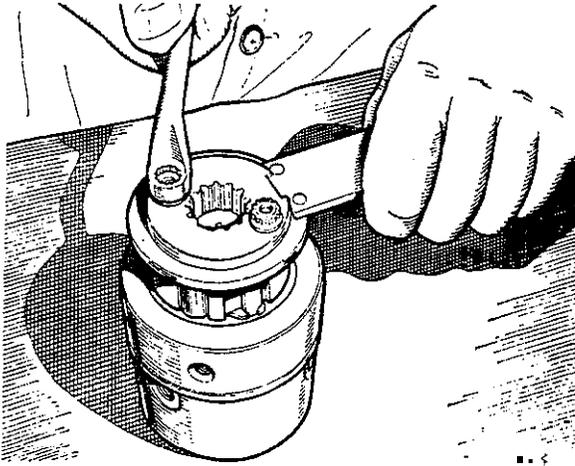

Fig. C.7
- (12) Slacken both the spring cap and end plug in the advance unit. Remove the hydraulic head locating bolt complete with its outer 'O' ring, and take care not to lose the non-return valve ball located in the side of the head locating bolt.
- (13) Remove the cap-nut and washer, and withdraw the advance unit from the pump. Detach the inner 'O' ring and washer from the head locating bolt hole, and discard the advance unit gasket.
- (14) Unscrew the spring cap and 'O' ring from the advance unit and withdraw the two springs and the piston. Note the 1 mm. shim inside the spring cap.
- (15) **Remove the end plug and 'O' ring from the advance unit.**
- (16) Unscrew the cam advance screw from the cam ring, with spanner 18G 646.
- (17) Slacken the fuel inlet connection and remove the screws and studs securing the end plate to the hydraulic head. Lift out the transfer pump vanes and withdraw the transfer pump liner.
- (18) Unscrew the fuel inlet connection and withdraw the regulating valve components in the following order: sleeve retaining spring, nylon filter, transfer pressure-adjuster, regulating spring and peg, regulating sleeve with piston and joint washer, and lastly the piston retaining spring.
- (19) Hold the drive hub with tool 18G 659 and, using spanner 18G 634, slacken the transfer pump rotor by turning it in the direction of pump rotation as shown on the pump nameplate.
- (20) Remove the two hydraulic head locking screws, one of which incorporates an air vent valve, and withdraw the hydraulic head and rotor assembly from the pump. Remove the 'O' ring from the groove in the periphery of the hydraulic head.
- (21) Unscrew the transfer pump rotor, but do not allow the pumping and distributing rotor assembly to fall out of the hydraulic head.
- (22) Stand the hydraulic head with the drive plate uppermost. Hold the drive plate with spanner 18G 641 and unscrew the two drive plate screws (see Fig. C.7). Remove the drive plate and top adjusting plate, and withdraw the rollers and shoes from the pumping and distributing rotor.
- (23) Withdraw the rotor from the hydraulic head, remove the bottom adjusting plate, and refit the rotor to the hydraulic head. Immerse the head and rotor assembly in Shell Calibration-Fluid 'C' to protect the working surfaces.
- (24) Withdraw the cam ring from the pump housing, noting the arrow etched on the visible face of the cam ring. This arrow indicates the direction of rotation as shown on the pump nameplate.
- (25) Remove the cam ring locating circlip from inside the pump, using circlip pliers 18G 1004.
- (26) Hold the drive hub with tool 18G 659 and, with torque adaptor 18G 644, unscrew the drive shaft screw from inside the drive hub. Withdraw the drive shaft and governor weights assembly from inside the pump housing.
- (27) Remove the 'O' ring, the weight retainer, weights, thrust washer, and sleeve from the drive shaft.
- (28) Withdraw the drive hub from the pump and remove the spring washer and support washer from inside the drive hub.
- (29) Remove the drive hub oil seal from the pump housing, using tool 18G 658.